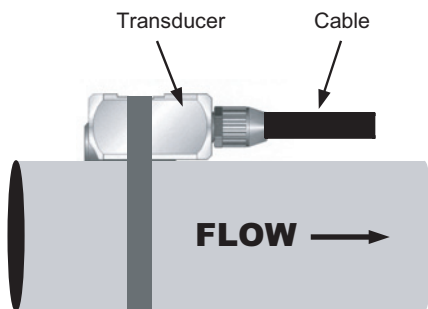

Figure 1.1
- B. Loosely wrap the appropriate length of strap around the pipe at the location determined in Step 1. Refer to Figure 1.1 for proper orientation of the transducer. For greatest accuracy, point the cable of the transducer in the primary flow direction.